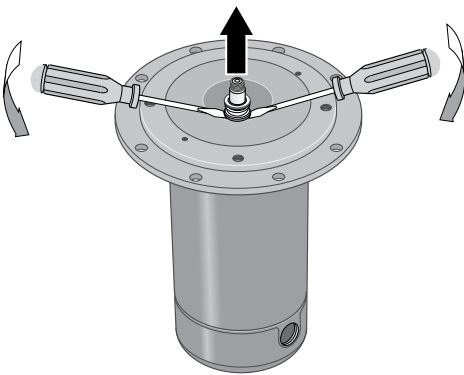

Figure 16: Remove Seal plate
3. Remove rotating half of seal by placing two screwdrivers under seal ring and **carefully** prying up (Figure 16).